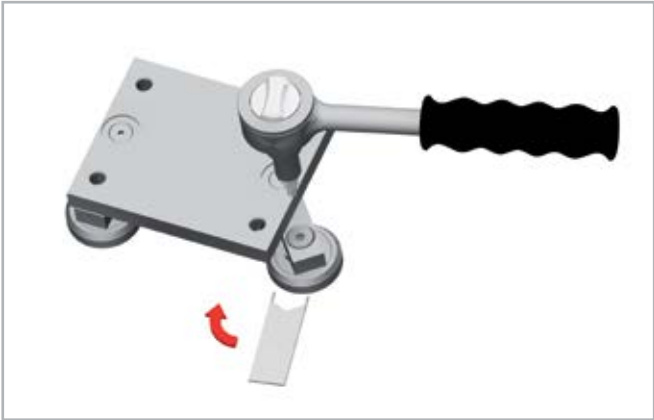

Fig. 28
- The special flat key provided is inserted from the side onto the hexagonal of the roller to be set (see fig. 28).